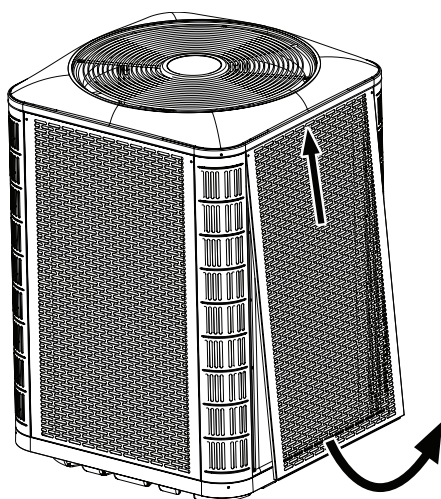
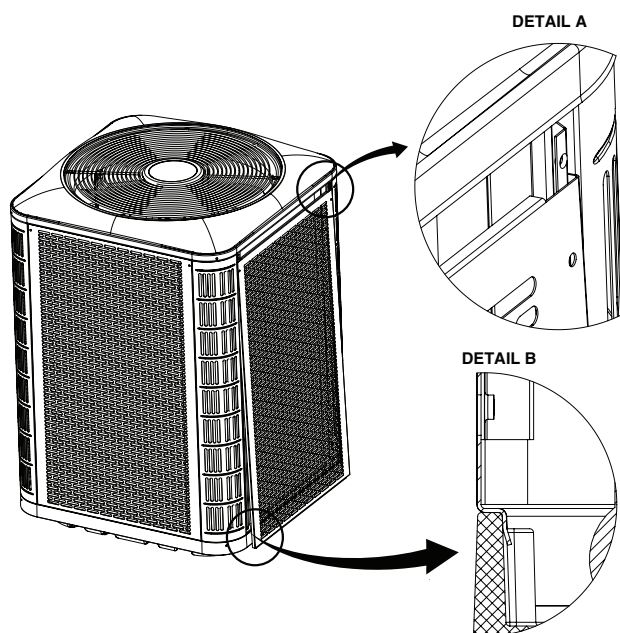

Figure 2. Panel Removal
Figure 3. Panel Installation
- To access the outdoor coil on units equipped with louvered panels, refer to Figure 2, \(page 6\) for panel removal and Figure 3, \(page 6\) for panel installation.
2. Slide the panel up towards the top pan in order to clear the bottom flange from the base pan. See Figure 2.
1. Insert the top corners of side panel flanges into the corner post channels as shown in Detail A in Figure 3.